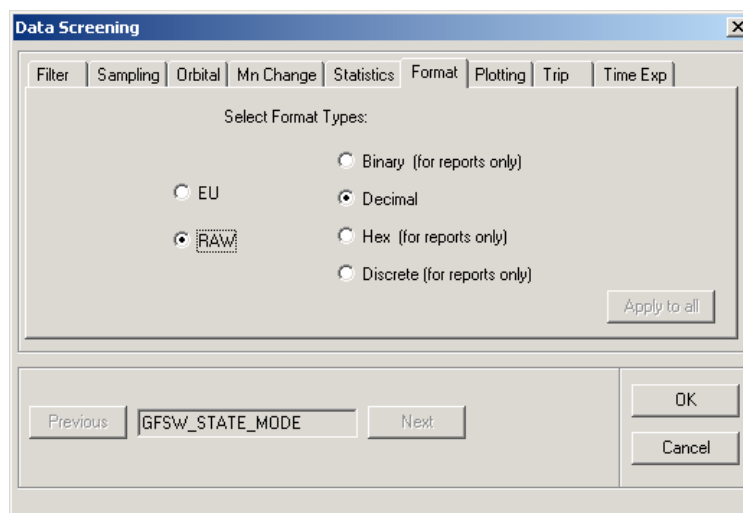

Figure 75: IDF Output Format Specification
Alternate output formats such as RAW, HEX or Discrete (the discrete state label instead of the numeric value for discrete state mnemonics) can be applied to all ITPS data reports. See the Data Screening selection screen (Figure 75) for plotting and report options.
- Select the “Format” tab from the Data Screening window (see Figure 75)